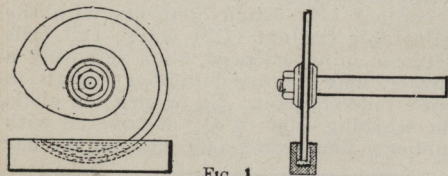

Fig. 1.
inch deep, ½ inch apart, round the circumference of the circle. This will give 105 holes, and a space over. Make a set of pegs to fit the holes fairly tight, ⅜ inch brass wire is suitable; also 20 spacing pegs, as in Fig. 2 to occupy two holes. (A) Fig. 1 is a light bar pivoted at (B) and having at the other end a triangular-shaped piece (C). (A) carries a contact (E) which connects with the adjustable contact (E2) where (C) falls between adjacent pegs, thus actuating a buzzer, which is used to give signals in one's receiving set. To deaden the click, the working edge of (C) is covered with rubber. The spring (F) ensures the bar
Essentially, the rheostat consists of a curved rod of graphite, submerged in water and so mounted that its effective length is varied by rotating an axle which serves at the same time as one of the current leads. The graphite resistor, which has the general form shown in Fig. 1, is sawed out of a plate of Acheson graphite, conveniently $\frac{1}{4}$ in. thick. It is centrally mounted on a stout horizontal axle, so that its rim runs with liberal clearance in a suitably shaped hollow milled in a block of copper. This hollow is filled with mercury, thus providing electric contact between the copper and graphite. Cooling is effected by enclosing the whole in a wooden box thru which water circulates. It is evident that by rotating the axle the resistance interposed between the axle and the copper block may be varied from practically zero up to a maximum determined by the shape and dimensions of the graphite resistor, in particular by the thinness of its "tail." Since this part of the resistor is not subject to any mechanical strain, it may, if desired, be given a very small cross section.
ELECTRICAL MASSAGE MACHINE (Fig. 1)—A suction electro-magnet pulls the applicator forward, which action breaks the magnet circuit. A spring returns the applicator, et cetera.